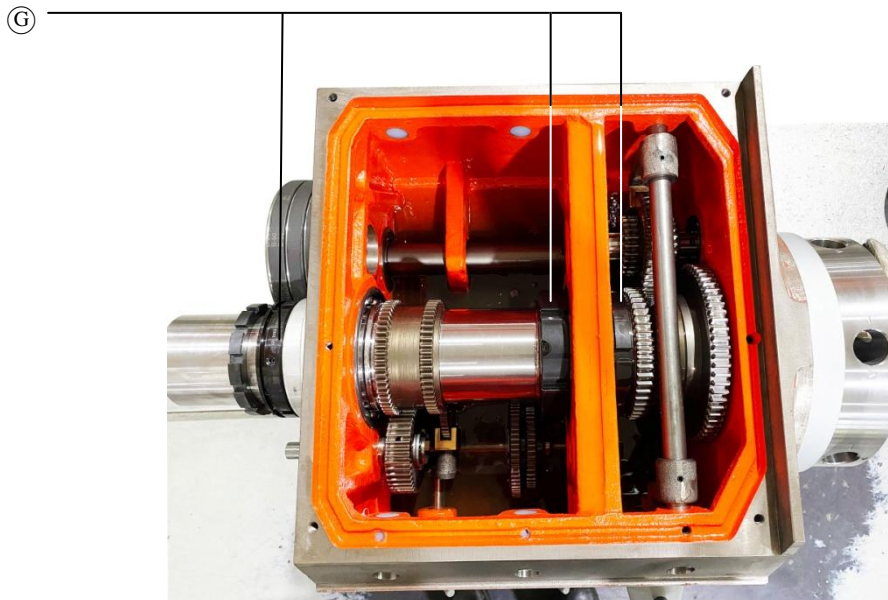

Fig.7-1.3
The front and center bearings on the spindle are precision taper roller type. To maintain the accuracy and proper operation, the bearings must have the proper preload. To adjust the bearings loosen the set screws on locking nut ③ (Fig. 7-1-3) and tighten locking nut ④ to get the proper preload do not over tighten. After adjusting be sure to re-tighten the setscrews.